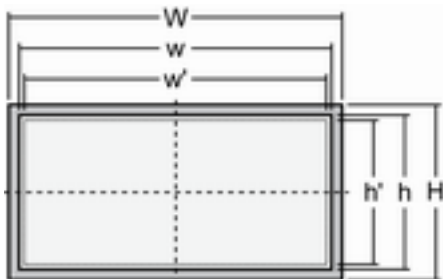

Fig. 8: Cutout schematic
1. ➤ Cut out the panel according to the dimensions in Fig. 8.